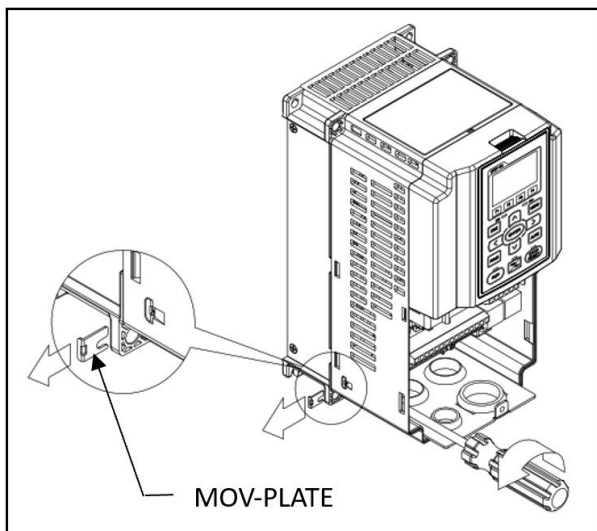

Figure 6-5. Removing MOV-PLATE.
- c. Remove the MOV-PLATE shown in Figure 6-5.